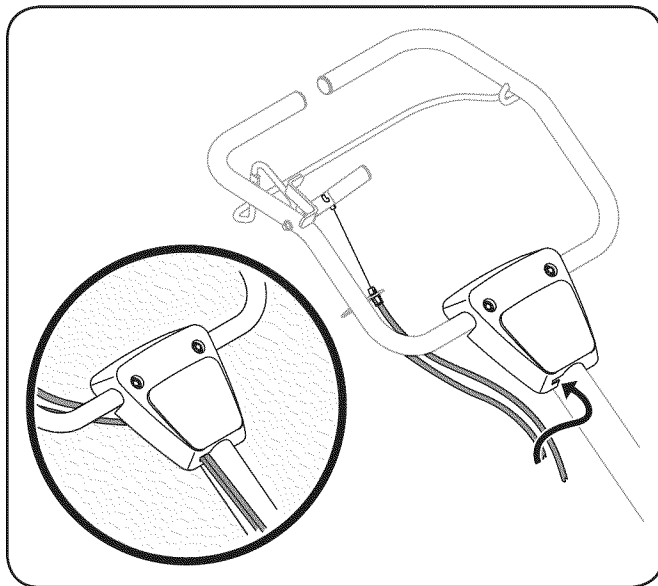

Figure 3-3
- Clip the cables into the cable guides located on the handle assembly panel as seen in Fig. 3-3.